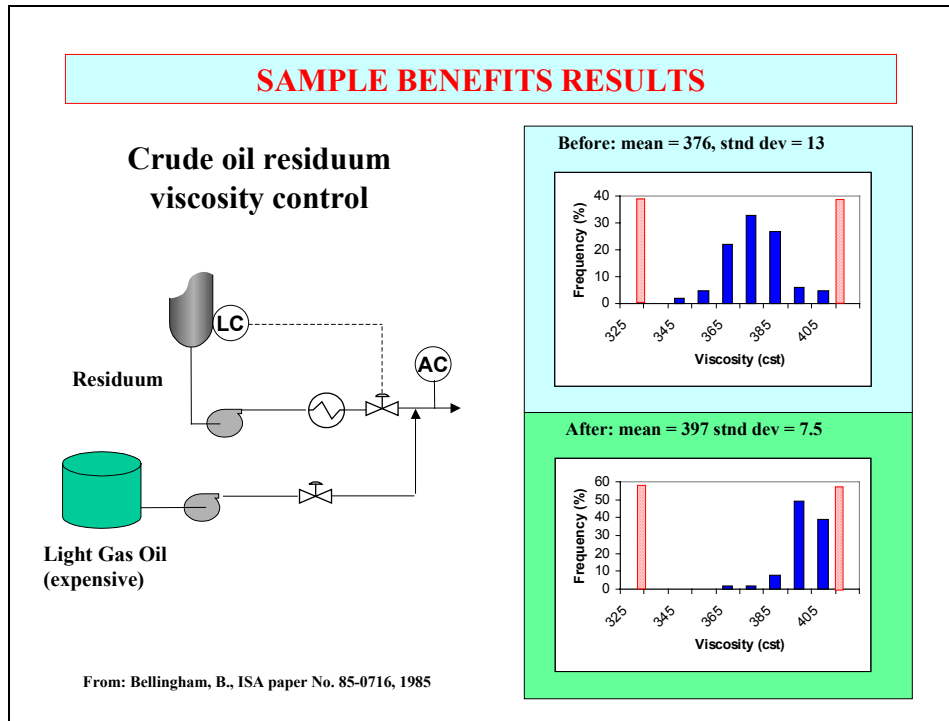

Figure 2.3
2.3 The data in Figure 2.3 reports experience in a blending of Residuum and more expensive Gas Oil to produce a product with upper and lower viscosity specifications. The “before” data represents manual operation by plant personnel. The “after” data represents feedback control using a computer and a on-stream viscosity analyzer. Discuss the performance and the source of benefits.